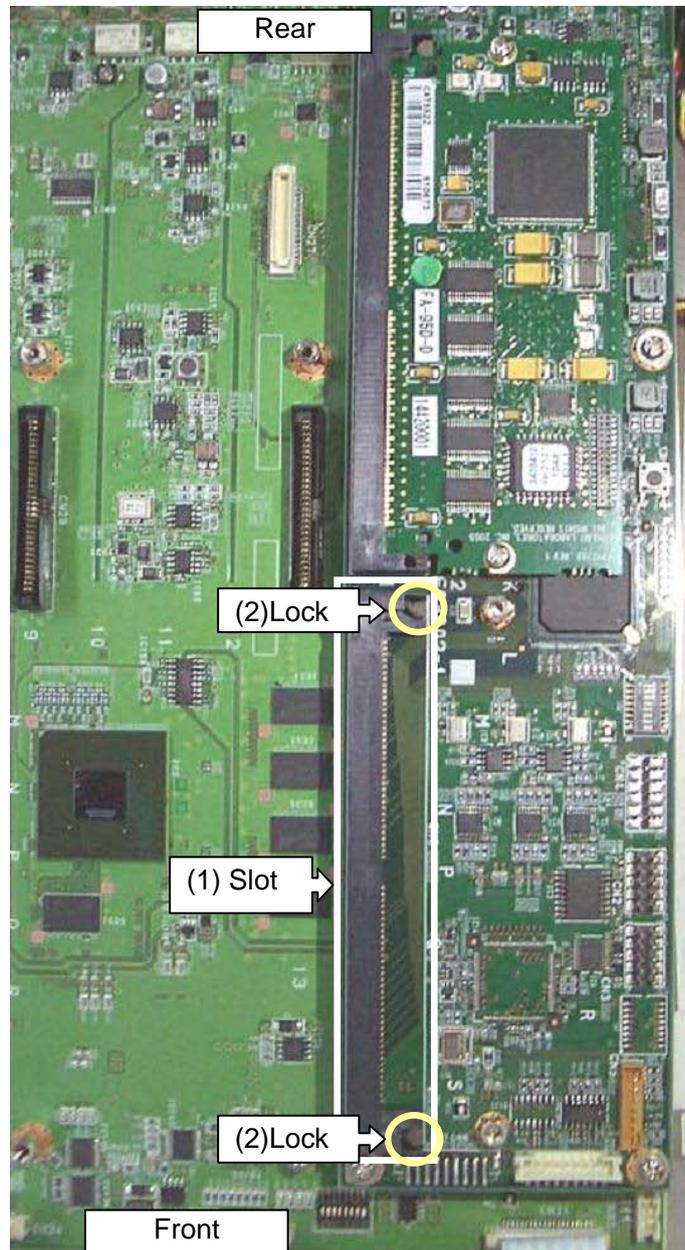

Fig. 15 FA-95DE-E installation slot
(Installing the FA-95DE-E) Tilt the FA-95DE-E option card 45 degrees and insert into the slot (CN8: SIMM connector) (Fig 15 (1)) on the FA-95D-D option card. Slowly push the empty space on the other side of the FA-95DE-E card down until it becomes even, and locked by the locks (Fig. 15 (2)) on both sides (of the slot).